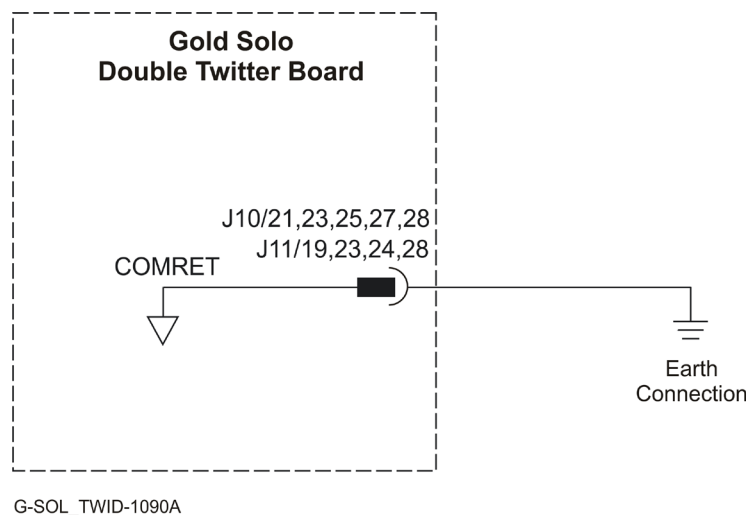

Figure 5: COMRET Connection to the PE
**At least one COMRET pin (Figure 5) must be connected to the Protective Earth (PE).**